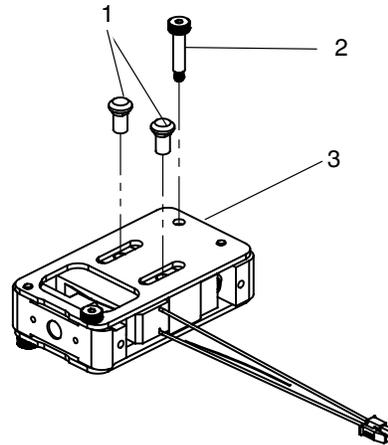

Figure 7-18 Frame Plate Assembly
5. Slide the aluminum block (5), onto the air fitting on the air flush heat exchanger (4).
6. Place the applicator on a table as shown in Figure 7-18.
7. Use your fingers to insert the two clamp nuts (1) into and flush with the frame plate (3).
8. Use a 2.5 mm hex driver to secure the top shoulder screw (2) to the frame plate (3). Torque the screw to a value of 8-9 in-lb.